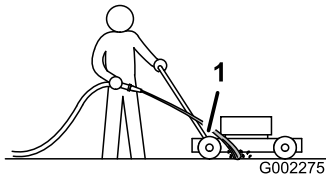

Figure 34
3. Hold the running garden hose at handle level and direct the water to flow on the ground just in front of the right rear tire (Figure 34).